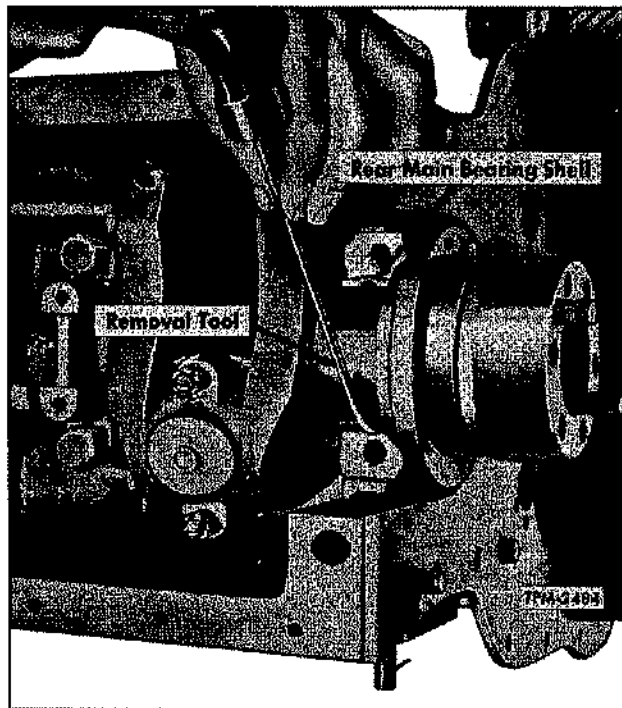

Figure 22—Removing Rear Main Bearing Upper Shell
6. Upper half of all main bearing shells may be removed in the above manner except the rear main. On this bearing, the upper shell must be removed by tapping on the edge of the bearing shell with a small curved rod, at the same time revolving the crankshaft, thus rolling the shell from position, as shown in figure 22.